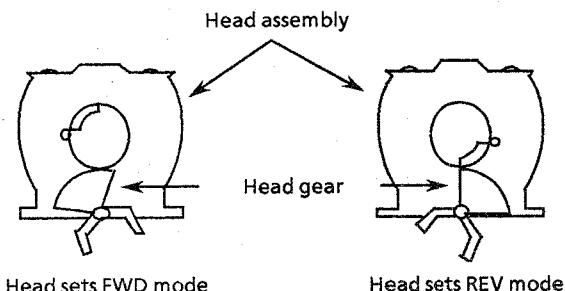

Fig. 12 Bottom view of the head assembly
- * Refer to fig.12 when installing.